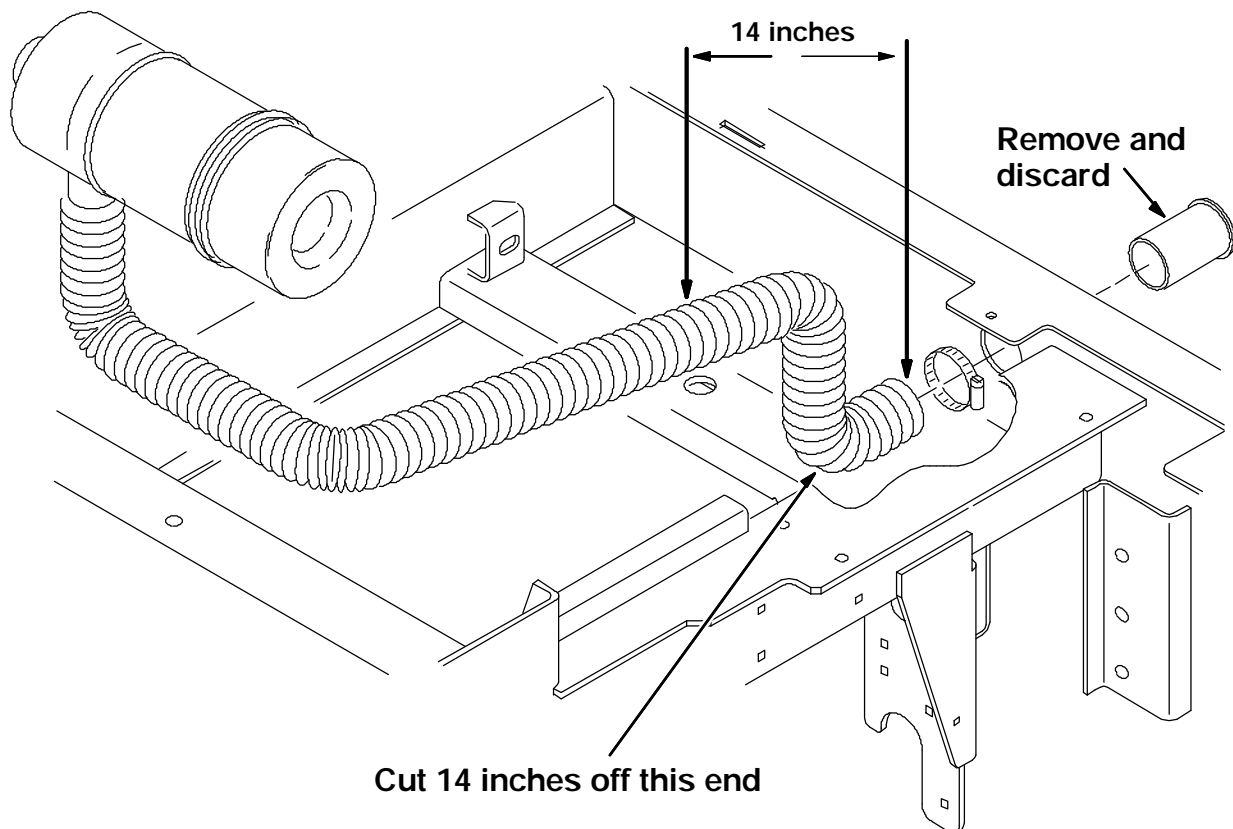
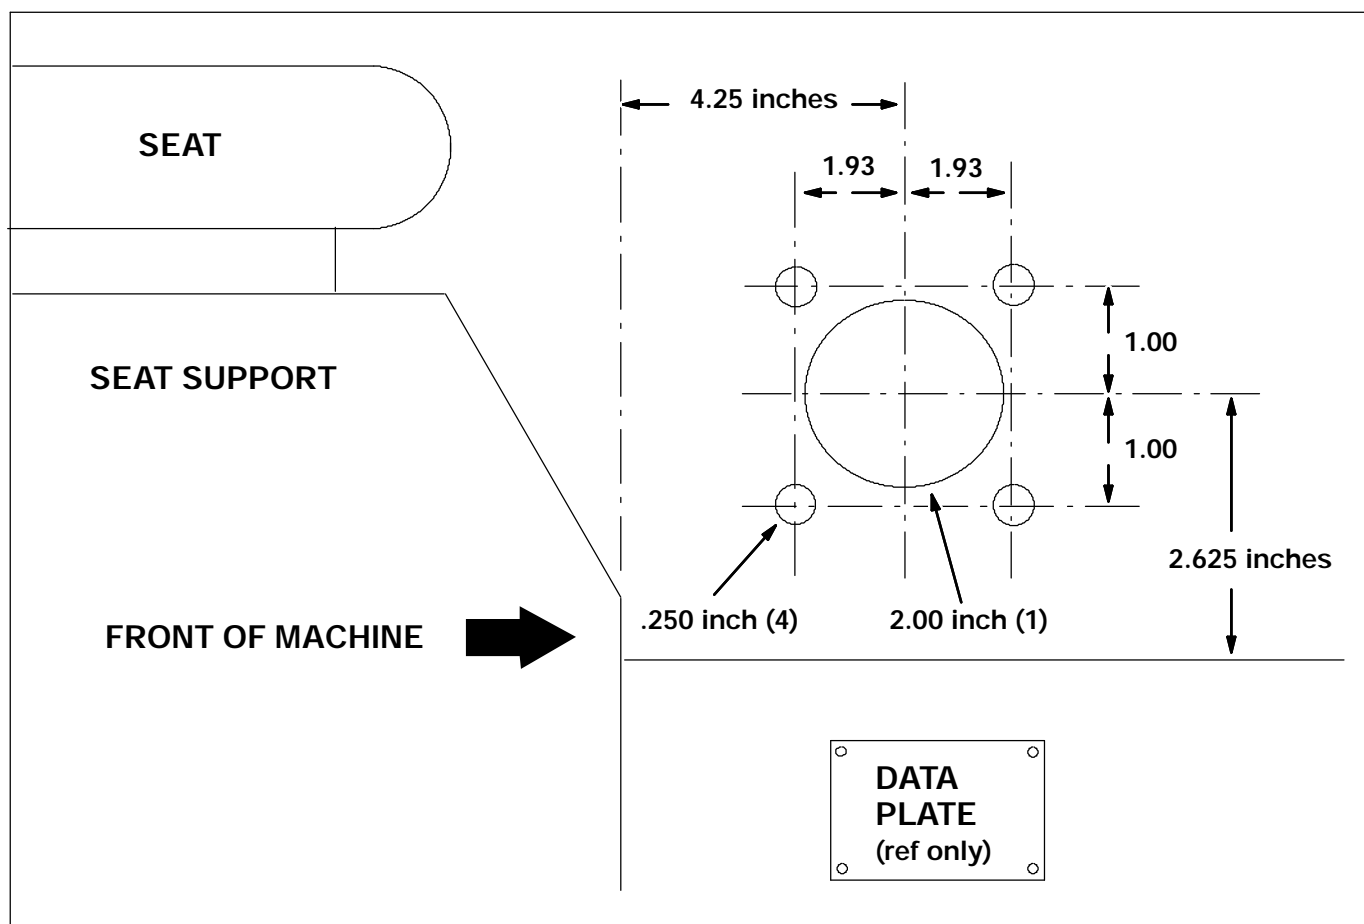

FIG. 2 - Intake Hose Re-work
FIG. 3 - Side Panel Re-work (viewed from operator compartment side)
5. Use the dimensions in FIG. 3 to mark and drill the mounting holes for the new intake tube (1). (Refer to FIG. 3)
6. Install the new intake tube (1) (installed from the operator compartment side) through the 2 inch hole.
7. Loosen the worm drive clamp at the end of the intake hose where it is attached to the old intake tube coming through the side of the machine frame. (Refer to FIG. 2)
8. Pull the intake hose off the tube and cut 14 inches off that end of the hose. (Refer to FIG. 2)
9. Install the cut end of the intake hose and the worm drive clamp onto the new intake tube (1). Tighten the clamp.
10. Use the four new rivets (3) to install the new intake guard (2) over the top of the new intake tube (1) in the operator compartment. (Refer to FIG. 3)